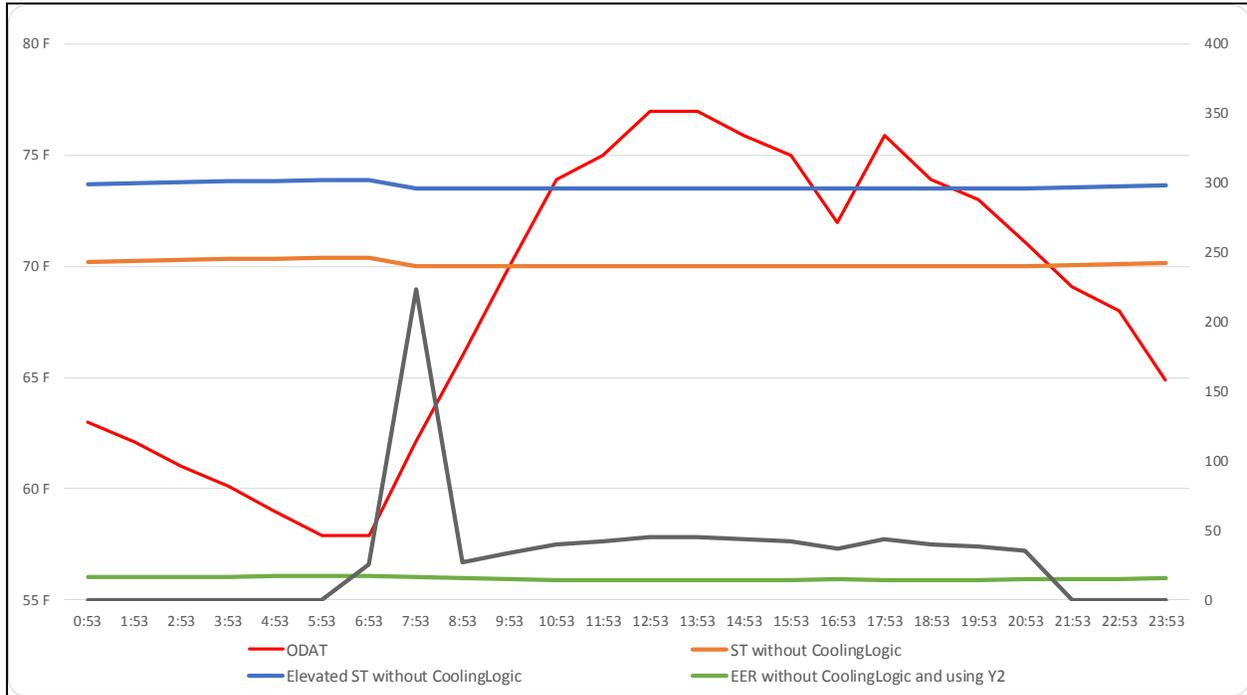
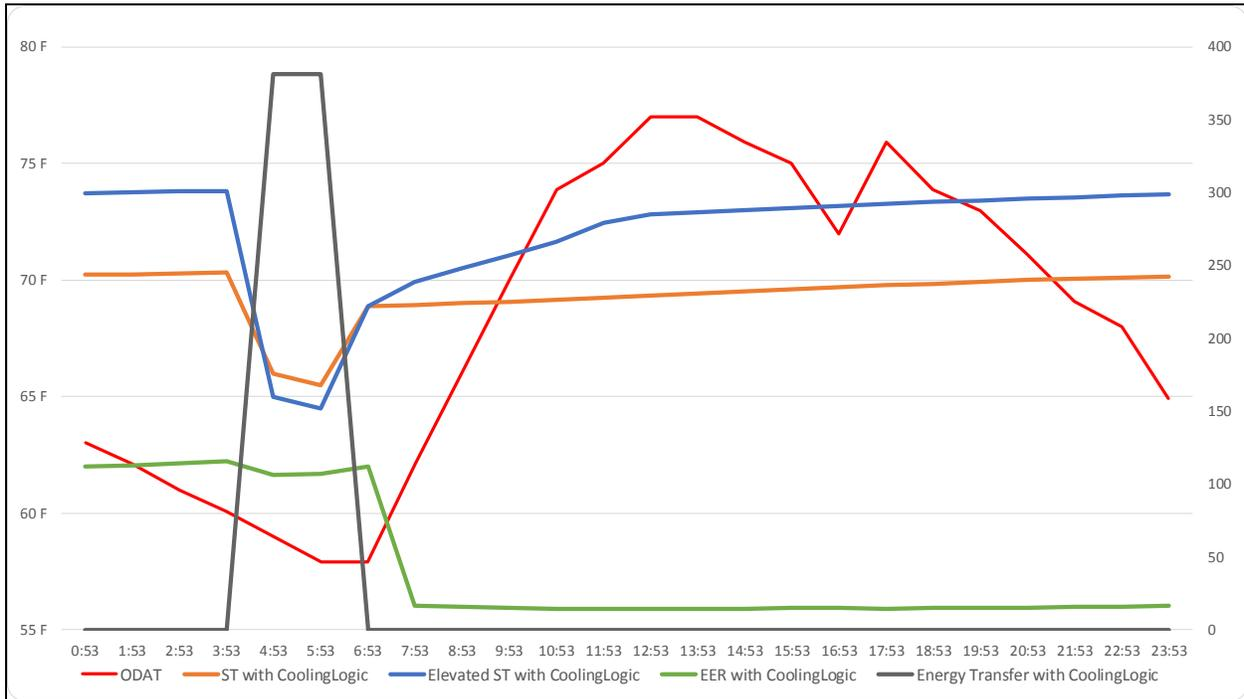

Figure 2: Typical System with no inefficiencies, without CoolingLogic™, and using Y2. Calculated EER = 15.0
Figure 4: System with CoolingLogic™ and no inefficiencies in fan operation. Calculated EER = 106.6
- Humidity is not a problem, but rather a good thing. As the outdoor air with higher relative humidity (RH) is injected into the building and is heated by the materials and things inside the structure, the RH of that same air drops as it increases in temperature.
- Take a really close look at the space temperature of *Figure 4* below showing CoolingLogic™ in operation. You'll notice that the temperature only drops by 1.1°F after the structure reaches equilibrium, but also before the building becomes occupied - that's enough pre-cooling to avoid refrigerant-based cooling for an entire day in this case.
The following graphs show relationships between the values of outdoor air temperature (ODAT), space temperature (ST), elevated ST, the energy transfer metric, and the Energy Efficiency Ratio (EER). It's important to note that we have been very conservative with our numbers. Some of the data is real, and other data is calculated/estimated using mathematical modeling, laws of physics (Newton's Law of Cooling), etc. *Figures 2 and 3*, which do not show CoolingLogic™ incorporated into the systems, are pretty much "best-case scenarios" of what one might hope to find. Basically, those "best-case scenarios" are usually never evident in real-life scenarios. Conversely, the graph for the CoolingLogic™ (CL) scenario is not a best-case scenario (*Figure 4*). The CoolingLogic™ graph does not factor in "typical" roof-mounted exhaust systems, which typically have a much lower differential static pressure and may be twice as efficient as a typical ducted roof-mounted packaged HVAC unit, which is the basis for these calculations. Oftentimes, roof-mounted exhaust fans would also be incorporated to encourage the transfer of air and significantly lower the cost to do so. The lower cost per volume of air movement of roof-mounted exhaust fans, coupled with the efficiency of roof-mounted exhaust fans in removing the hot and stratified air near the ceiling of a tall structure, would cause CoolingLogic™'s efficiencies to increase even more.